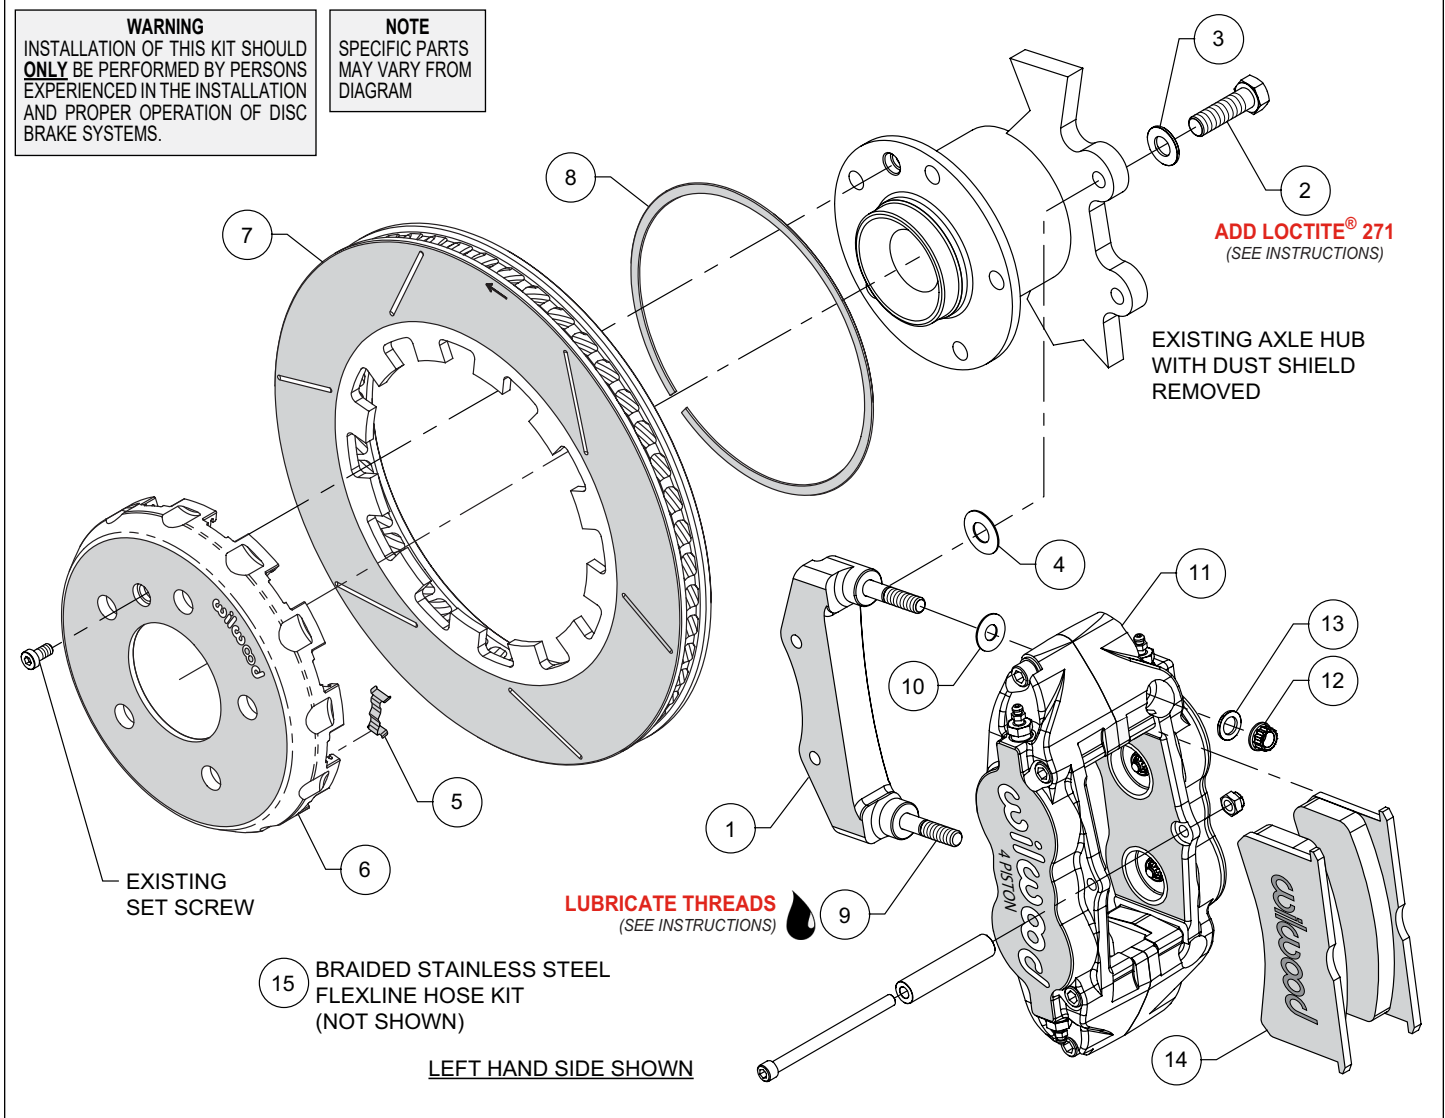

Figure 1. Typical Installation Configuration
NOTE: Numbers in parenthesis refer to the parts list and Figure 1 on the preceding pages.
- The caliper mount bracket (1) should initially be installed with clean, dry threads on the mounting bolts. Orient the bracket, as shown in Figure 1 and Photo 1, and install using bolts (2) and washers (3). Initially place one .030" thick shim (4) on each bolt between the bracket and upright, Figure 1. Temporarily tighten the mounting bolts. **NOTE:** *The bracket must fit squarely against the mount bosses on the upright.* Inspect for interference from casting irregularities, machining ridges, burrs, etc. Later, after the caliper alignment has been checked, the mount bolts will be secured using red *Loctite*® 271.
- Insert the dynamic mount wear clips (5) into the slots in the hat (6), Photo 2. Orient the rotor (7) as shown in Figure 1 and Photo 3, with the flush side of mount lugs facing the hat. Secure the rotor to the hat using the snap ring (8) by simultaneously pushing down on the rotor and installing the ring into the groove in the hat, as shown in Photo 4. Carefully inspect snap ring to ensure complete engagement in the groove.
- Lubricate the caliper mounting studs (9) with lightweight oil. Initially place one .035" thick shim (10) on each stud between the caliper and the bracket, as shown in Figure 1 and Photo 5. Mount the caliper (11) onto the bracket (1) using lock nuts (12) and washers (13), Figure 1. Temporarily tighten the lock nuts and view the rotor through the top opening of the caliper. The rotor should be centered in the caliper, Photo 6. If not, adjust by adding or subtracting shims (4) between the bracket and the upright. Always use the same amount of shims on each of the two mounting bolts. Once the caliper alignment is correct, remove the bracket mounting bolts (2) one at a time, apply red *Loctite*® 271 to the threads, and torque to 35 ft-lb.
- Remove the caliper pad retainer bolt, nut, and tube from the caliper. Insert the brake pads (14) into the caliper, with the friction material facing the rotor, as shown in Photo 7. Check that the top of the brake pad is flush with the outside diameter of the rotor, Photo 8. If not, adjust by adding or subtracting shims (10) between the caliper and the bracket. After the caliper pad height is set, torque the caliper lock nuts (12) to 30 ft-lb. Secure the brake pads in place with the pad retainer tube, bolt, and locknut, Photo 9. The locknut should be snug without play in the bolt or tube. Be cautious not to over tighten.